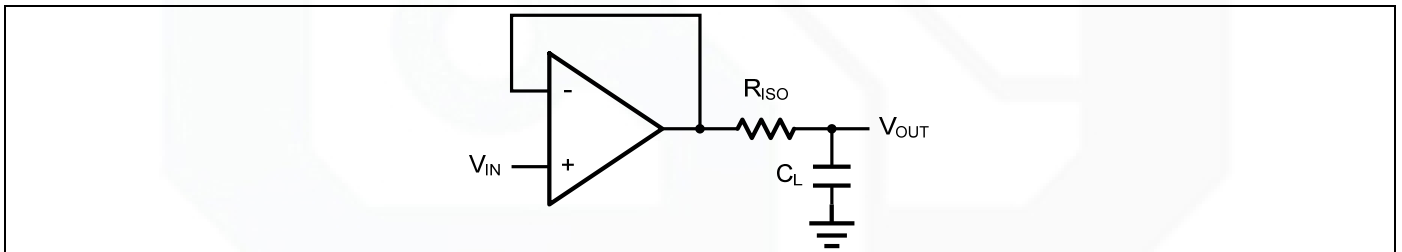
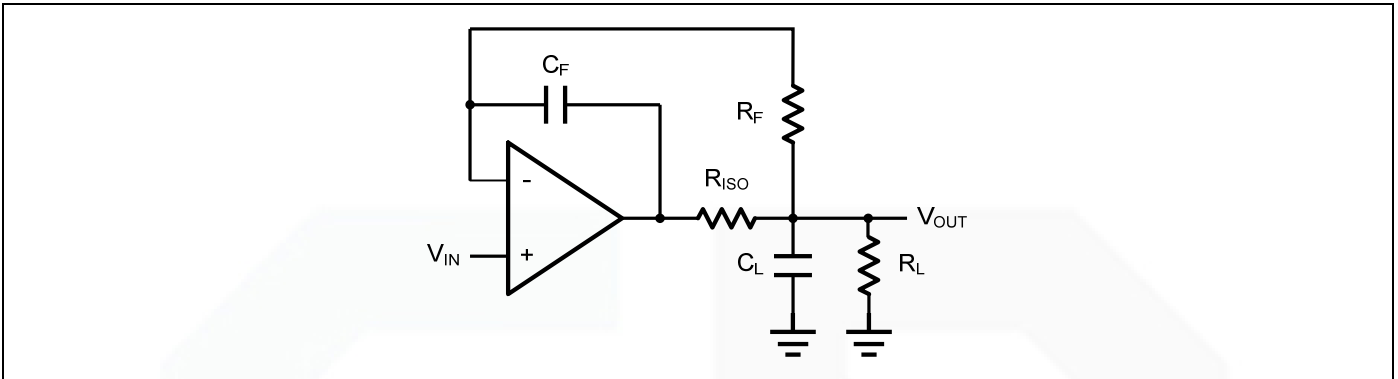

Figure 2. Indirectly Driving a Capacitive Load Using Isolation Resistor
Figure 3. Indirectly Driving a Capacitive Load with DC Accuracy
The LM321/358/324 family is optimized for bandwidth and speed, not for driving capacitive loads. Output capacitance will create a pole in the amplifier's feedback path, leading to excessive peaking and potential oscillation. If dealing with load capacitance is a requirement of the application, the two strategies to consider are (1) using a small resistor in series with the amplifier's output and the load capacitance and (2) reducing the bandwidth of the amplifier's feedback loop by increasing the overall noise gain. Figure 2. shows a unity gain follower using the series resistor strategy. The resistor isolates the output from the capacitance and, more importantly, creates a zero in the feedback path that compensates for the pole created by the output capacitance.
The circuit in Figure 3 is an improvement to the one in Figure 2. R_F provides the DC accuracy by feed-forward the V_{IN} to R_L . C_F and R_{ISO} serve to counteract the loss of phase margin by feeding the high frequency component of the output signal back to the amplifier's inverting input, thereby preserving the phase margin in the overall feedback loop. Capacitive drive can be increased by increasing the value of C_F . This in turn will slow down the pulse response.